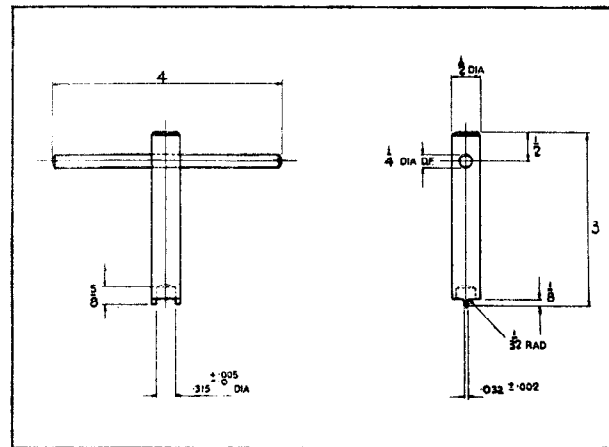
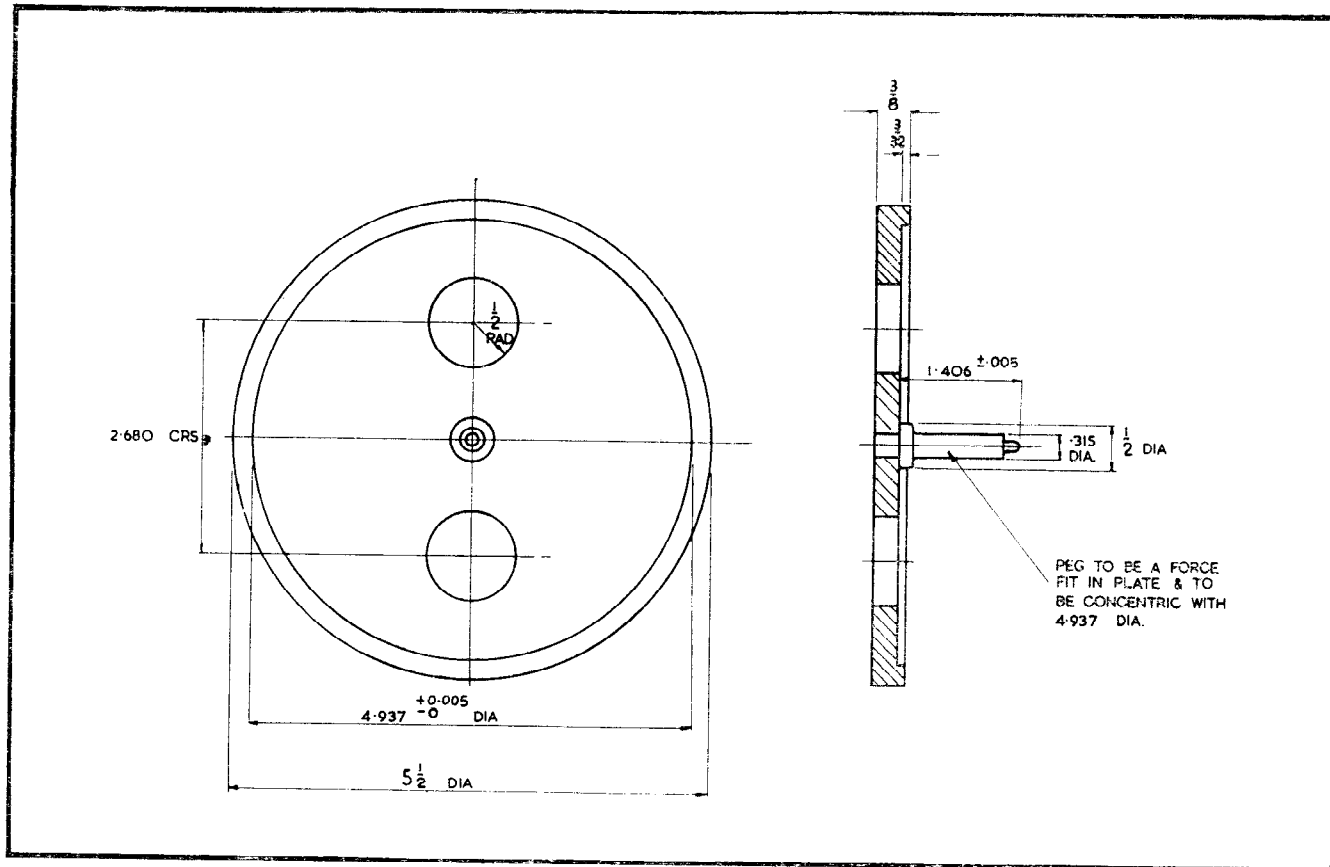

Fig. 2.
Fig. 5.
If the air gap setting is incorrect, loosen the cone nut and sleeve lock nut. Turn the adjusting sleeve in a **clockwise** direction to **reduce** the gap, **anti-clockwise** to **increase** the gap. Use the tool shown in Fig. 2 to make this adjustment.
- (a) Before tightening the screws securing the coil assembly, the guide spring bearing must be centralised in the horn body. Place the centralising jig (Figs. 5 & 6) over the horn body, with the central peg located in the guide spring bearing, and tighten the coil securing screws. Make sure that the coil clamping plates are square to the windings, and that the coil is firmly clamped around the former and not moveable by hand.
The air gap adjusting tool (Fig. 2) and centralising jig (Figs. 5 and 6) must be made under local arrangements. The correct material for both tools is mild steel, case hardened.